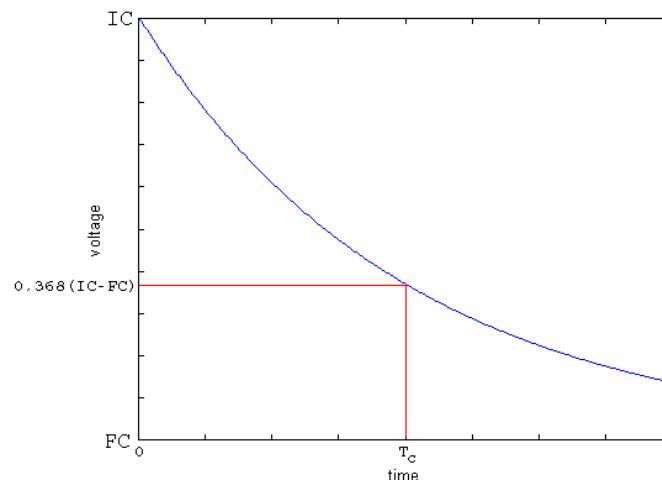

Figure 4. Oscilloscope display of exponential decay waveform
- b. Adjust the scope's horizontal and vertical position knobs and the trigger slope and level so that the waveform is completely visible, but fills the scope face. Line up the **start** of the exponential waveform with the vertical grid line on the left edge of the scope face. Set the horizontal scale (time base) so the trace looks something like Figure 4. It is not necessary that you be able to see 5 time constants; but it is good practice to expand the display so that at least 50% of the scope face is used for measurements (as shown in Figure 4).
- d. Method 2 of MEASURING the time constant T_C — curve fitting: Use **Benchlink Scope as described in Appendix 1 to make a printout or bitmap file of the oscilloscope display.** This display will be analyzed as part of your lab writeup. Because you will use this display to determine T_C it is very important that you adjust the voltage sensitivity to get a display similar to that shown in Figure 4. You can use the oscilloscope's vertical positioning adjustment to accurately place the waveform's start at the left top of the screen.
- a. Determine (IC - FC) from your first printout. This value of (IC - FC) should be the peak-to-peak voltage of the source and should be near 8 V. Locate the voltage $0.368 \cdot (8 \text{ V}) = 2.94 \text{ V}$ from FC on your printout. This should typically be about one third of the way up from the bottom of the oscilloscope display (as shown in Figure 4). This voltage level is significant because one time constant has elapsed when the exponential has decayed to 36.8% of the difference between the initial voltage and the final voltage. Determine this time T_C from your plot.